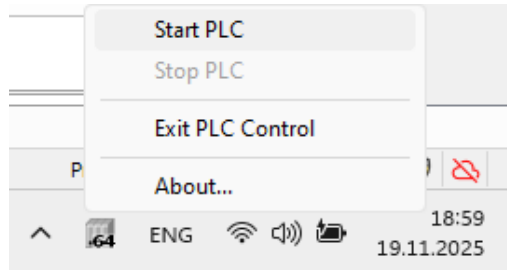

Figure 38. CODESYS Control Win SysTray
1. In the Windows taskbar notification area, right-click the **CODESYS Control Win SysTray Icon** and select **Start PLC** (see Figure 38).